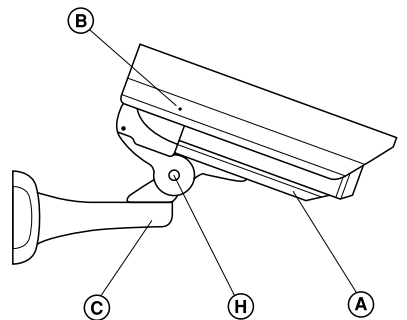

Fig. 4
7. Break the diaphragma of the rubber glands (E) to be used (two for diameter 7~9mm and two for diameter 9~12mm cables (Fig. 4).
11. Place the housing in the requested direction and fasten the joint screwing the screws (C) and (H) with 6mm allen key (Fig. 4).
12. Close the housing proceeding in the opposite direction of the opening. Replace the body, make the earthing, fasten the body to the back part, lock the screw (A) of the external slide.